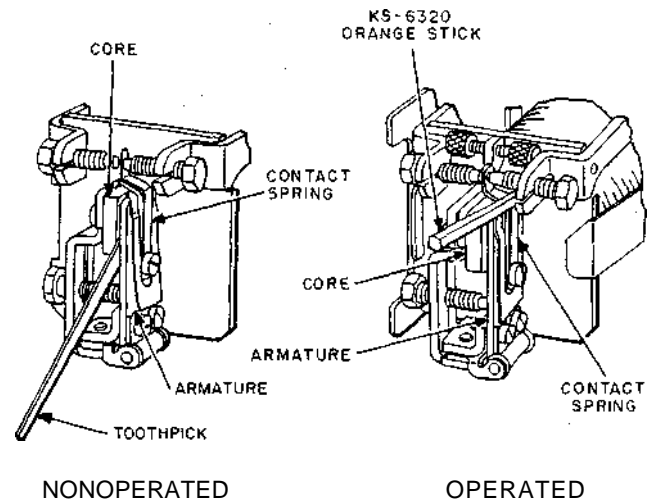

Fig. 6—Blocking L-, N-, and S-Type Relays
3.04 L-, N-, and S-Type Relays: Fig. 6—Block relays nonoperated by inserting the flat end of a toothpick between the core and the armature. Insert the toothpick from below the core. Block
relays operated by using a part of a KS-6320 orange stick prepared as follows. Cut approximately 1-5/8 inches from one end of the orange stick and then cut approximately 5/8 inch from the smaller end of this cutoff portion. Use the remaining 1-inch length for blocking the relay operated by inserting it between the armature and contact screw bracket, as shown in Fig. 6.